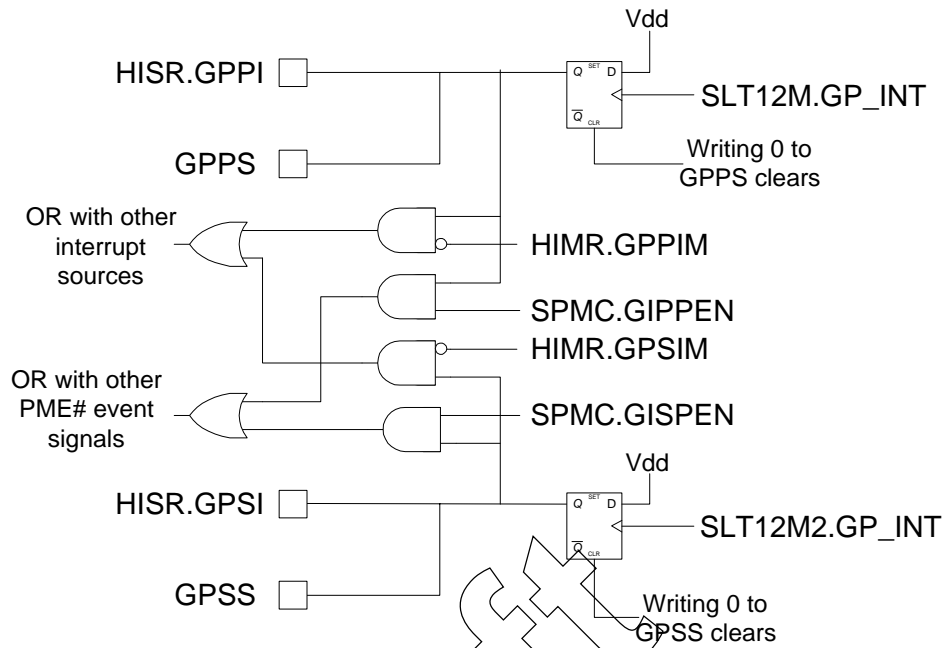

Figure 52. AC-Link Slot 12 GP_INT Conceptual Logic
- GPSS** **GP_INT** input Secondary Status. A general purpose input pin on the Secondary Codec (**ASDIN2**) caused slot 12, **GP_INT** to set (**SLT12M2.GP_INT = 1**). Writing **GPSS = 0** clears the locally stored copy; however, since the interrupt condition occurred in the Secondary Codec, the condition must be removed through the Secondary Codec (**ACCTL.TC = 1**) **GPIO Pin Sticky** register, Index 54h. See Figure 52.
GPSS	GP_INT input Primary Status. A general purpose input pin on the Primary Codec caused slot 12, GP_INT to set (SLT12M.GP_INT = 1). Writing GPSS = 0 clears the locally stored copy; however, since the interrupt condition occurred in the Primary codec, the condition must be removed through the Primary Codec (ACCTL.TC = 0) GPIO Pin Sticky register, Index 54h. See Figure 52.